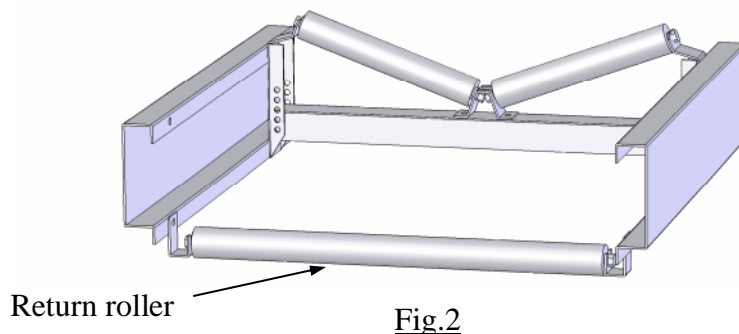

Fig.2
3. Assemble the roller frame as shown, fig. 2, inserting the bolts without tightening them. Distance between roller frames 1,2 m.